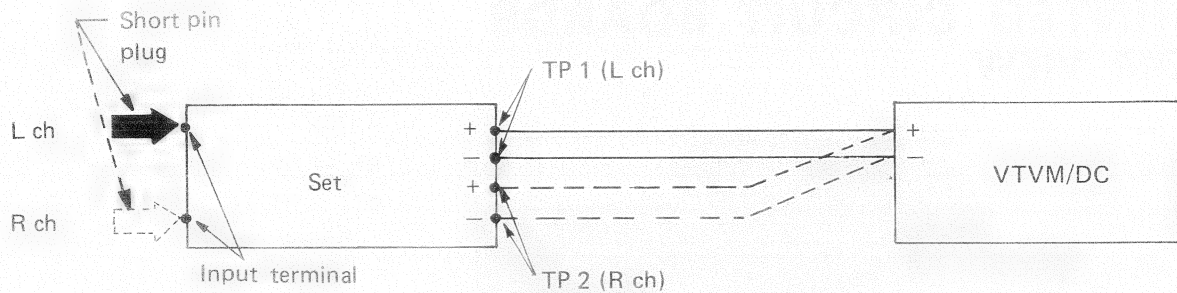

Figure 14
- (1) Connect test equipments as shown in Figure 14.
- (2) Short the input terminal with short pin plugs.
- (3) Adjust the SVR 501 (L ch), and SVR 502 ( R ch) as the VTVM indicates 20mV DC.